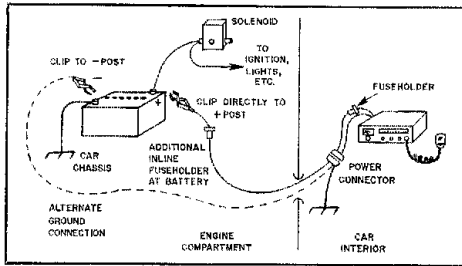

Fig. 4 — The suggested method of connecting a mobile rig to your car battery is shown.
Fig. 4 — At A, schematic diagram of a 300-ohm balanced Chebyshev filter assembled on perf-board material. The passband response of the 300-ohm filter is shown at B. Design parameters: reflection coefficient = 4.111%, $F_{-A_p} = 51.6$ MHz, $F_{3dB} = 44.5$ MHz, $F_{30dB} = 36.0$ MHz. Design inductances: 0.67 μ H: 13 turns no. 24 wire on T44-10 Micrometals core. 0.57 μ H: 12 turns no. 24 wire on T44-10 Micrometals core. Turns should be evenly spaced, with approximately 1/4 inch between the ends of the winding. If T37-10 cores are used, wind 15 and 14 turns, respectively.
Fig. 4 shows the schematic diagram and the measured passband response of the Chebyshev 300-ohm balanced filter. Fig. 6 shows the filter components assembled on a small piece of perfboard. The filter design is based on a 7-element Chebyshev design with an F_{-A_p} cutoff frequency of 51.6 MHz, and a reflection coefficient of 4.111%. Because the 300-ohm impedance level is four times greater than that of the
75-ohm filter, the inductance values of the 300-ohm filter are about four times greater than those of the 75-ohm design. Consequently, a different type of toroidal core is used for the 300-ohm filter to get optimum results. See Fig. 4 for capacitor and inductor values. As before, high-stability, low-loss NPO ceramic capacitors were used.
The passband response (Fig. 4) shows an insertion loss less than 1 dB over the 54- to 240-MHz range. However, there are discontinuities in the insertion loss slope and a slight insertion gain between 150 and 161 MHz. This anomaly may be associated somehow with an interaction between the filter and the 75/300-ohm baluns used in the measurement test setup. In any case, the filter passband attenuation is relatively low and flat, and extends beyond 240 MHz.
- 2) Provide power for the rig directly from the car battery. Use an in-line fuse holder at the battery-clip end of the positive lead to prevent damage or fire from accidental shorts, as shown in Fig. 4.